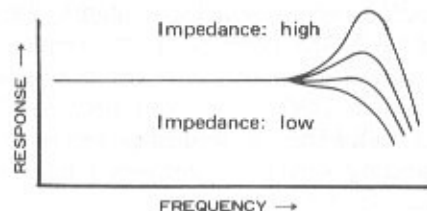
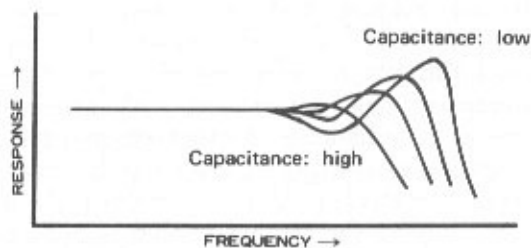

Fig. 12
Fig. 13
Typical moving magnet (MM) type cartridges possess resonance peaks at high frequencies, as shown in Fig. 12. The height of the peaks can be varied with the load resistance ($k\Omega$) switch, with higher peaks obtained at higher switch settings. Resonance frequency (center of peak frequency) can also be varied by changing the load capacitance (pF) switch. Higher capacitance values produce lower resonance frequency and higher peaks (Fig. 13). By employing both CARTRIDGE LOAD switches, various high frequency characteristics can be obtained. Switch operations are as follows.
Since the example in Fig. 13 shows typical high end frequency curves, adjust both switches for the desired response while listening to the record playback.